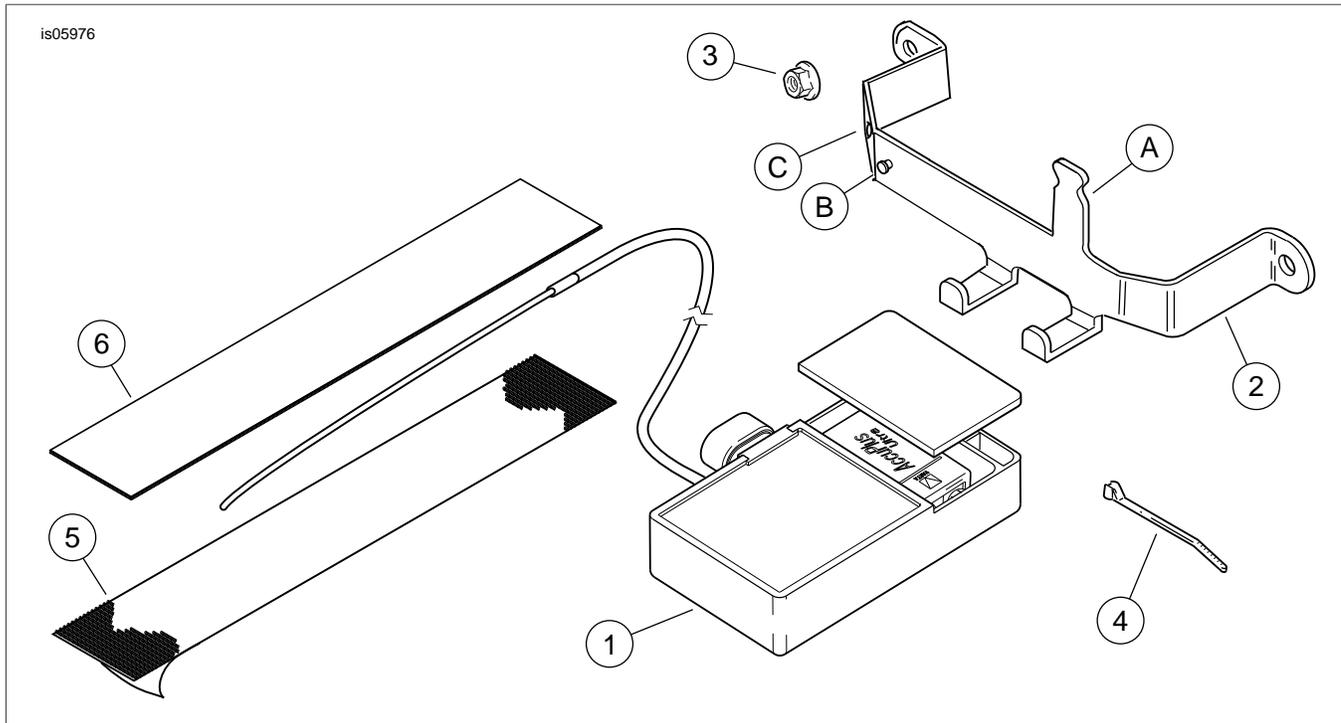

Figure 5. Service Parts, Service Parts, Kit 68317-06A
See Figure 5 and Table 1.
6. Place the siren in the cradle formed by the siren bracket tabs with the connector and antenna (6) pointing **up** and the sounder disc (5) facing **out**. Loop the wire tie (2) from the kit around the neck of the connector, aligning it with the notches in the vertical tab of the siren bracket. See Figure 5 for the location of the vertical tab notches. Cinch the wire tie tight to bind the siren to the bracket.
10. See Figure 5. Obtain the adhesive-backed hook fastener (5) from the kit. Peel the paper backing from the fastener adhesive, and attach the fastener to the frame in the cleaned area.